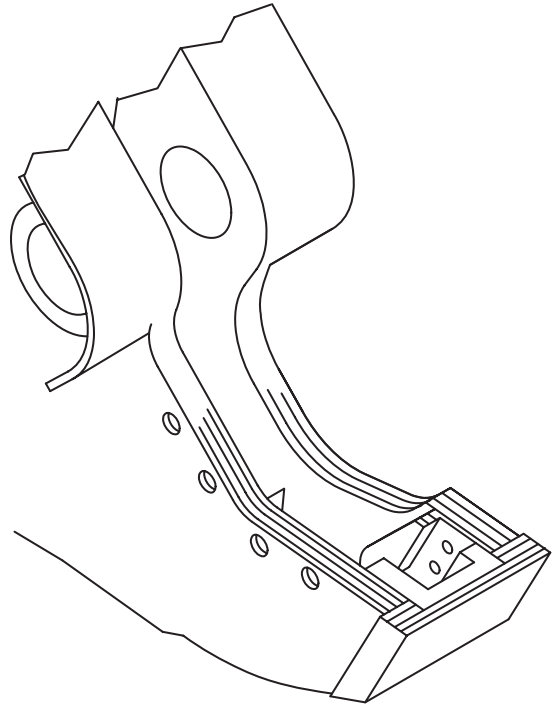

FIGURE 6-7
6. To hardsurface the build-up just completed, we recommend using Amalloy 814 or equivalent. Apply 3 or 4 single passes running the length of the shear and across on the nose plate (figure 6-7). No more than two layers of this rod should be used.